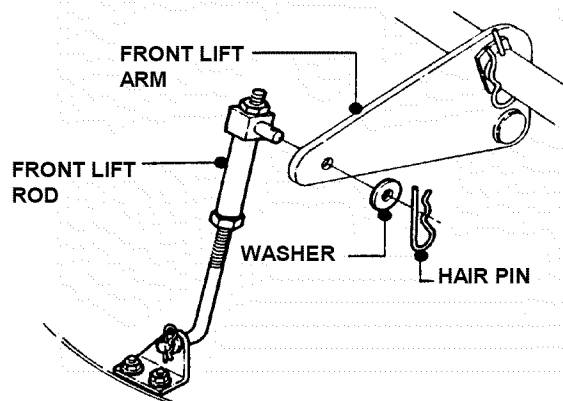

FIGURE 4.29
4. Disconnect the deck lift rod from the front lift arm. See Figure 4.29.